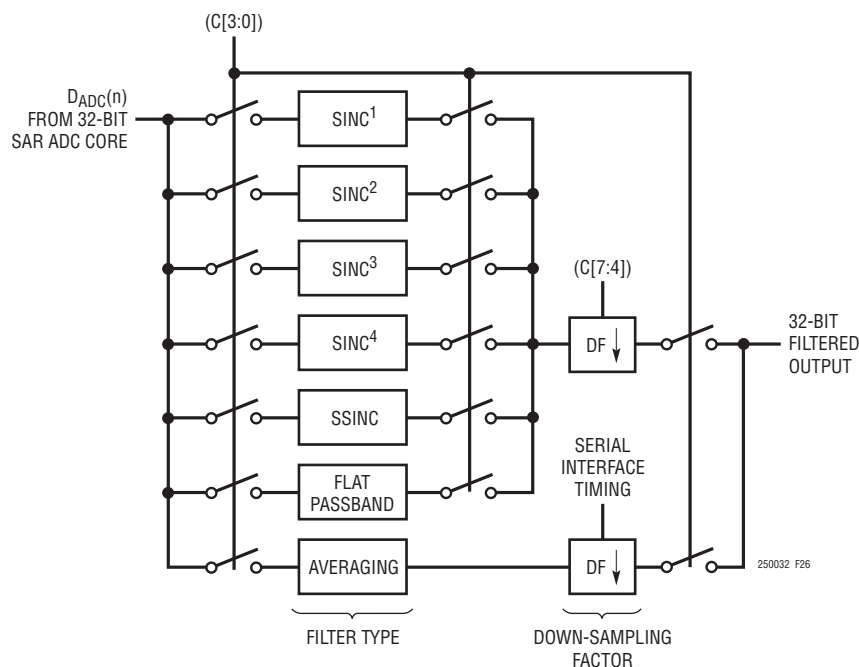

Figure 26. Digital Filter Block Diagram
The LTC2500-32 offers seven digital filter types that are selected and configured through the digital interface with the C[3:0] bits in the configuration word. The filter types are:  $\text{sinc}^1$ ,  $\text{sinc}^2$ ,  $\text{sinc}^3$ ,  $\text{sinc}^4$ , spread-sinc (ssinc), flat passband and averaging as shown in Figure 26. The output of the selected digital filter type is multiplexed into a down-sampler with a programmable down-sampling factor (DF).